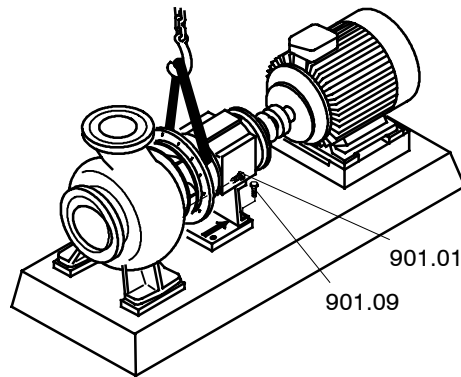

Fig. 2
- 1 Unscrew the hexagonal screws (901.01) of the adapter (344.01) and the hexagonal screws (901.09) of the support foot from the baseplate (890.01), Fig. 2.